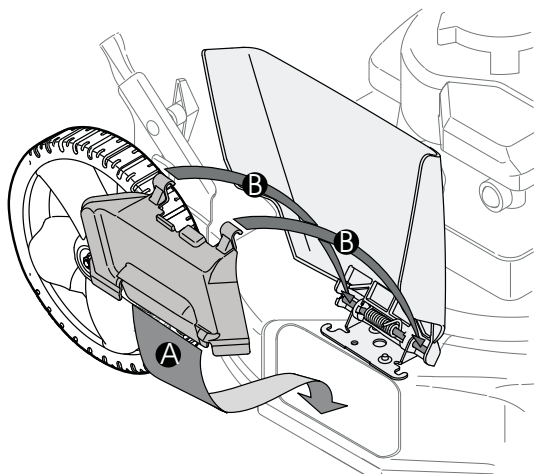

Figure 10 (optional)
- Lift the chute deflector on the mower. Slide the notches in the bottom of the mulching baffle over the lip of the discharge opening. See Figure 10.